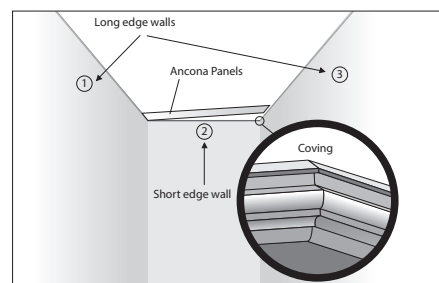

Fig.1
- Begin by squaring off three segments of the roof area with coving (Fig.1). Panels will be applied horizontally from the short edge of the wall (Fig.1). Measure and cut your cornice to size. Cornice ends can be cut with a square edge or at angles to fit around internal or external corners.
coving. Repeat this process for all three coving strips. The last coving strip, which will be placed along the second short end is the last to be fitted and will coincide with the fitting of the last panel. Please leave this space free until this stage. (Fig.1)